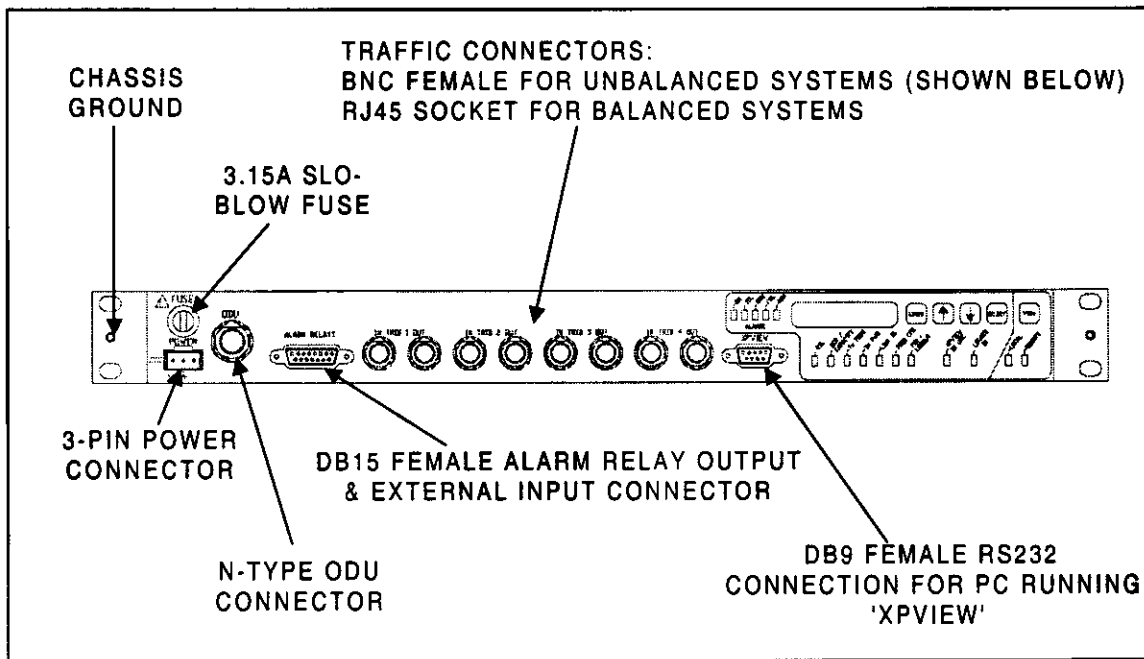

Figure 3-4. XP4 2x/4x IDU Connectors
- Lay in, secure with cable ties and terminate ground cable (at least 14 gauge wire recommended {1.5mm2 conductor}) between IDU ground post and a nearby local grounding point. Refer to Figures 3-4, 3-5 and 3-8 for IDU ground post location.